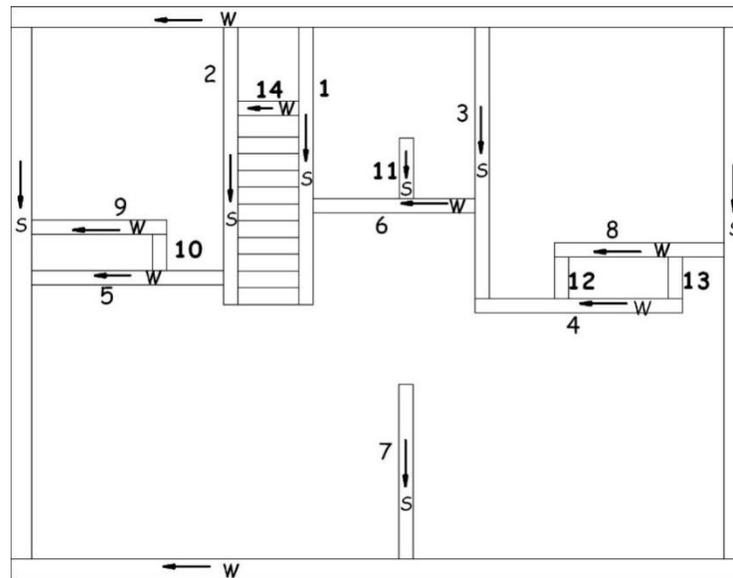
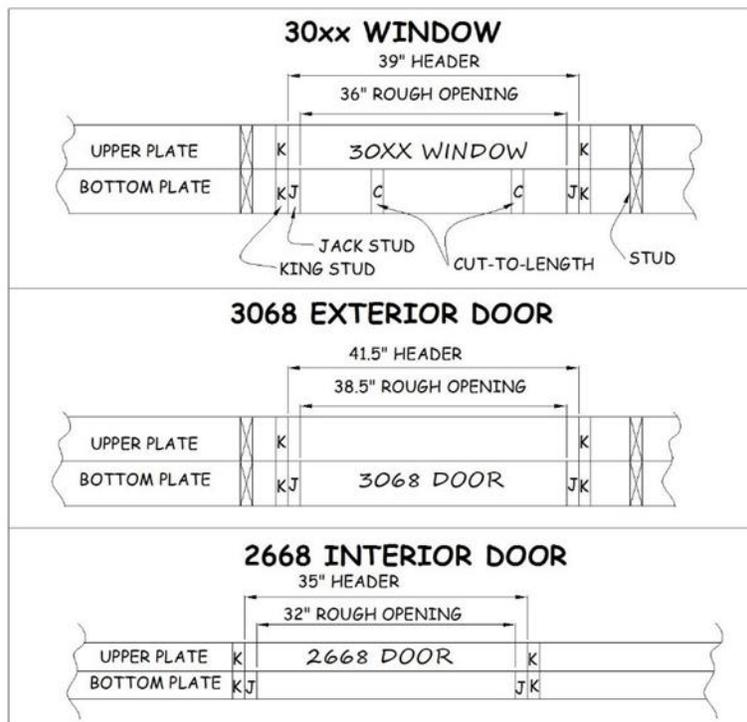

Figure 3-4. Plate Labeling Diagram.
Figure 3-5. Plate Marking for Doors and Windows.
1. Before cutting the wall plates, consult the Plate Layout Drawing to identify all full-length plates and any pre-defined plate lengths (hand-drawn on the printed plan). See Figure 3-4.
3. Referring to the window or door sizes indicated on the Plate Layout Drawing, measure and mark the location of the King and Jack studs supporting the header (see Figure 3-5). Window and door sizes are indicated with a four-digit code. The first two digits represent the width of the opening in feet and inches. The second two digits represent the height of the opening in feet and inches. For example, a 3040 window is 3'-0" wide by 4'-0" high (i.e., 36" wide by 48" high).
4. Label the King and Jack stud locations with “K” or “J” to specify the location of the pre-built window and door components during wall assembly. The Jack studs will always be to the inside of the King Studs. Stud width is always 1½”. Label the location of both King and Jack studs on the bottom plate but label only the King stud on the upper plate (see Figure 3-5).
- a. Mark the inside edge of the upper plate with “UPPER” and the inside edge of the bottom plate with “BOTTOM” (see Figure 3-5). Mark the upper plate with a letter and arrow showing the compass orientation (north, south, east or west) of the plates while lying on the deck (see Figure 3-4).